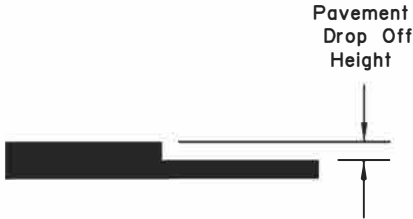

FIGURE 3
4. Use a Safety Edge for longitudinal or diagonal pavement edge drop-offs more than 2 inches within a traveled lane. See Figure 3. Use a Safety Edge on longitudinal joints between lanes as required by Table 3a.